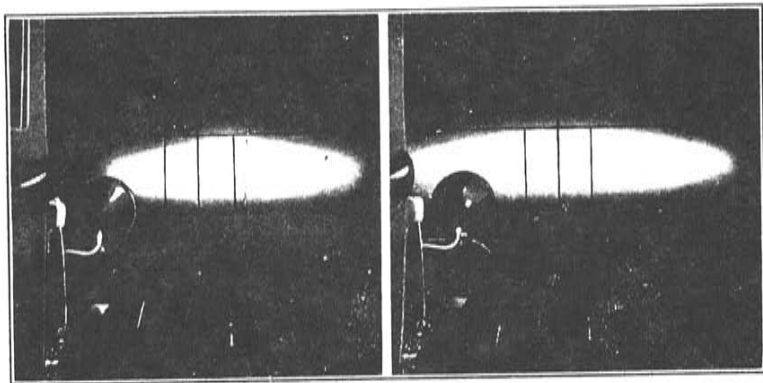
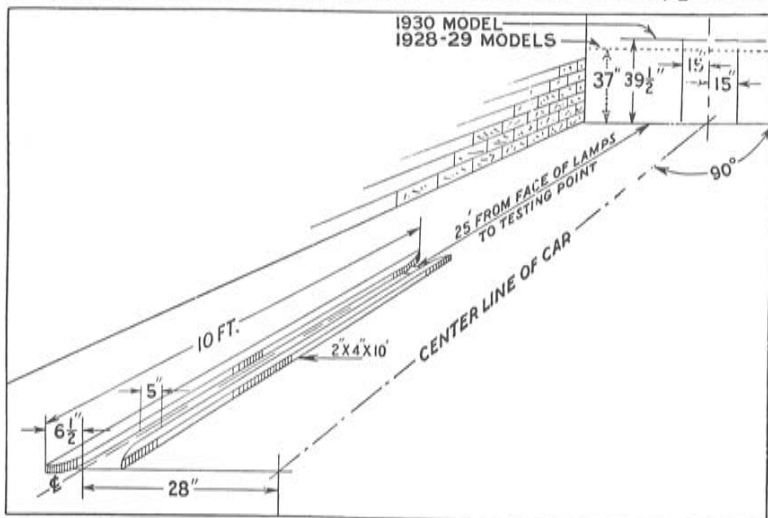

Figure 18
Figure 20
Align and focus headlamps with empty car standing on a level surface in front of a white wall or screen 25 feet from front of headlamps. This wall must be in semi-darkness or sufficiently shielded from direct light so that the light spots from the headlamps can be clearly seen. The wall must be marked off with black lines as shown in Figs. 18 and 19. Details for making the layout are shown in Fig. 20.
3. Focus by means of screw at back of lamps, first one lamp and then the other, adjusting the bulb filament at the focal center of the reflector to obtain an elongated elliptical spot of light on the wall, with its long axis horizontal (see Fig. 18). In focusing, adjust the bulb to obtain as good contrast and as well-defined cut-off across the top of the spot of light as possible.
2. The tops of the bright spots on the 25-foot wall are to be set at a line $39\frac{1}{2}$ inches (1928-9 models $37''$) above level of surface on which car stands. (See Fig. 20.) With tops of bright spots thus set for empty car, the headlamps comply, under all conditions of loading, with the requirements of the various states.